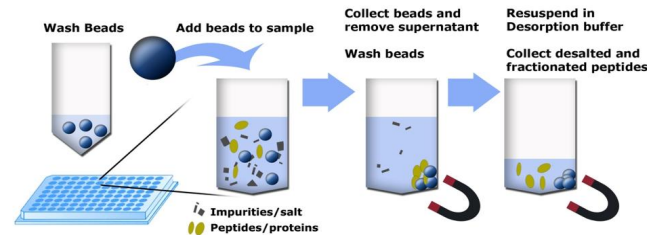

Fig. 1: Principle using MagSi-proteomics beads.
MagSi-proteomics beads are magnetic silica beads coated with C4, C8 or C18 groups, providing a reversed phase (RP) surface chemistry. The beads are an ideal tool for protein and peptide sample concentration, desalting and fractionation, and reducing sample complexity (Fig. 1). The different versions of MagSi-proteomics beads are intended for: